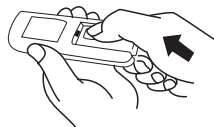

Fig.5
(3) Slide back the battery cover Fig.5.